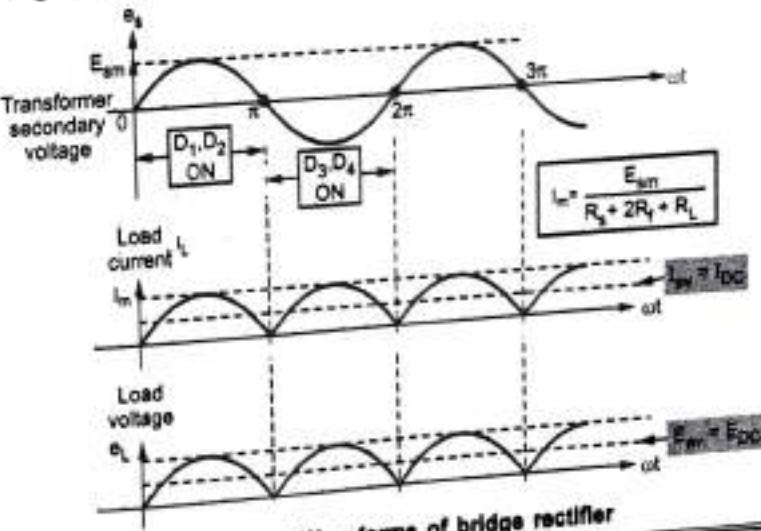

Fig. Q.32.4 Waveforms of bridge rectifier
- The waveforms of load current and voltage are shown in the Fig. Q.32.4.